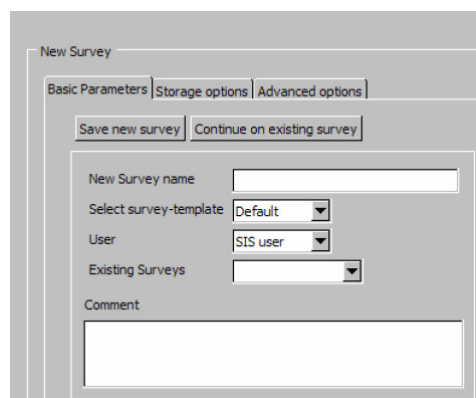

Figure 4: Basic parameters display
- **New survey name:** Select **Basic parameters** and enter a unique new survey name descriptive to the survey (Figure 4).
When finished press **Save new survey** (Figure 4).